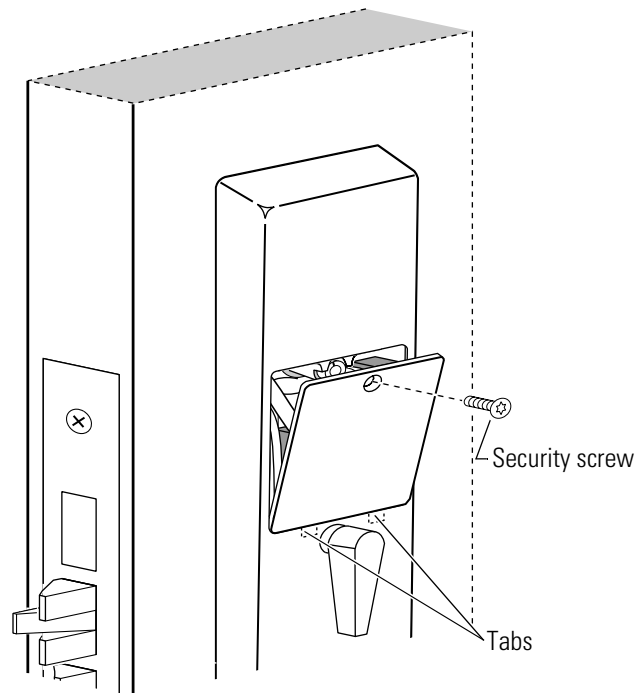

Figure 11.3 Removing the battery door (four-cell door shown)
1. Use a T15 TORX bit driver to remove the security screw from the battery door. See Figure 11.3.